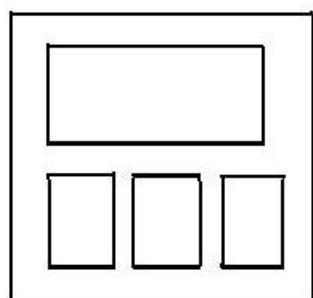

Figure 1
5. Lay out panel and mark with three  $\frac{1}{2} \times \frac{3}{4}$  inch rectangles and one hole  $1 \frac{1}{4} \times \frac{3}{4}$  inch. You can select your own figuration. Figure 1.